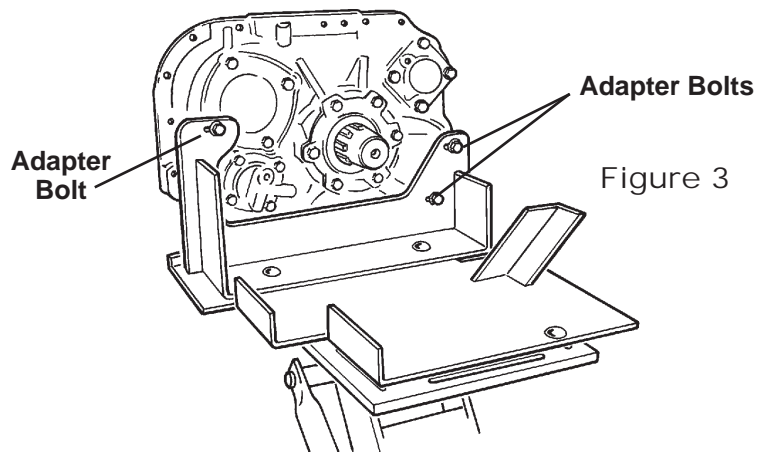

Figure 3
2. Attach the three adapter bolts to the countershaft bearing caps on the auxiliary housing as shown in Figure 3.